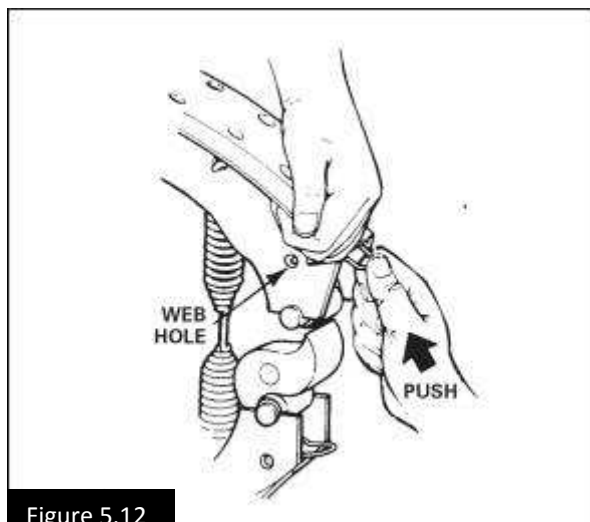

Figure 5.12
20. Push each roller retainer clip into the brake shoe until its ears lock in the holes in the shoe webs. Figure 5.12.